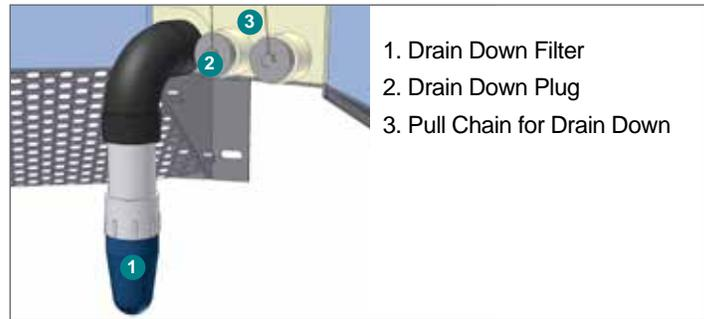

Fig.10 The Drain Down Filter.
6. Use a screwdriver to unscrew the Drain Down Filter from the face of the Outlet Module (see Fig.10). **DO NOT DISCARD THIS PIECE.**